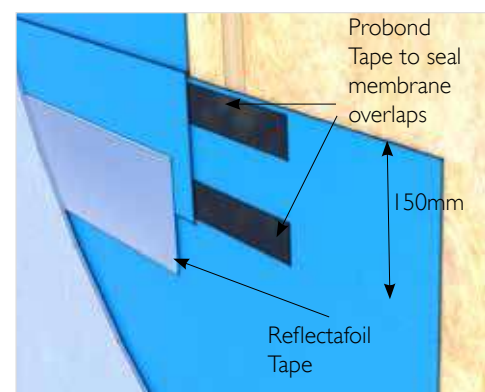

Fig. 4: Profoil detail: Overlaps sealed with Probond Tape and Reflectafoil Tape over the edges
7. Seal all overlaps and perimeter edges with a single run of Reflectafoil Tape. (Fig.4).